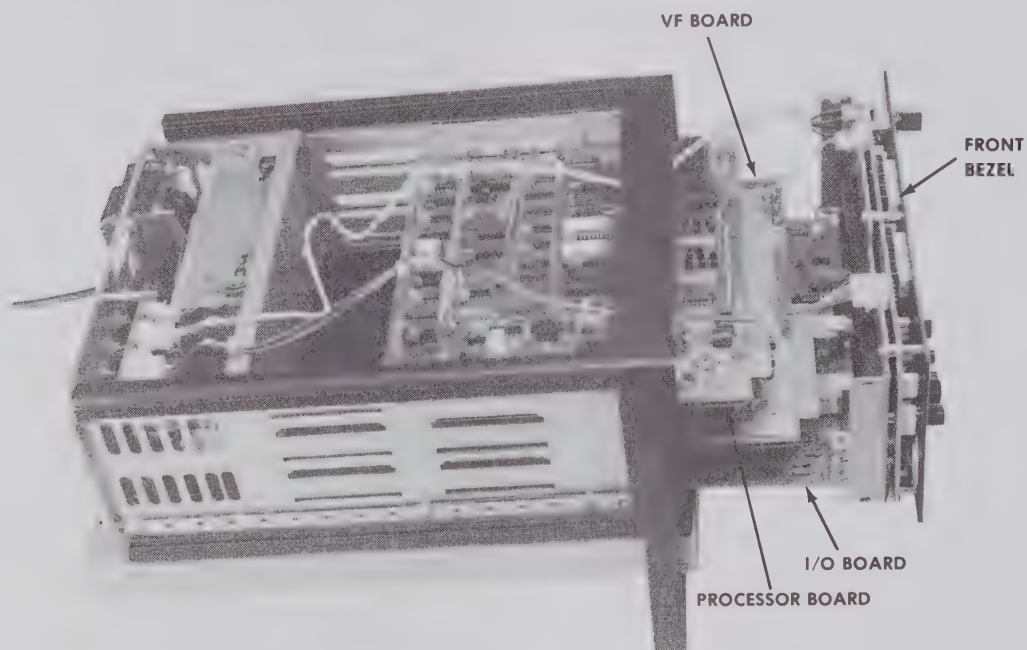

Figure 2-3 Disconnecting the Processor and V/F Boards
5. Slide the front panel out part way from inside the front bezel by pushing against the rear of the front panel with both thumbs while gripping the sides of the bezel with the fingers and palms of both hands. (The front panel and three circuit boards extending from it should start to slide straight out.) See Figure 2-3.
6. While gripping and supporting the sides of the front panel with both hands, push back the corners of the top circuit board with both thumbs to disconnect this board (the processor board) from the front panel (Figure 2-3). Repeat this procedure for the middle board (the V/F board).
go through the front opening of the frame (Figure 2-3).
10. Refasten the two cable cluster connectors to their corresponding pin connectors on the back inside of the rear panel (Figure 2-3). (Push the connectors straight in so that the pins will not be bent or broken.) Note that one connector is a 4-pin and one is a 5-pin connector; this will indicate where each one goes.